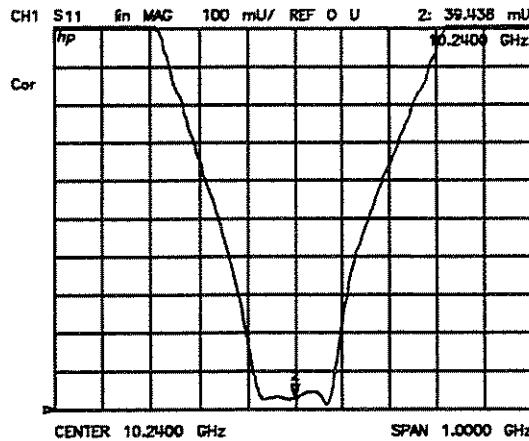

Figure 5–15. Linear Magnitude Format
**REAL** (REAL) displays only the real part of the measured data on a Cartesian format (Figure 5–16). This is similar to the linear magnitude format, but can show both positive and negative values. It is primarily used for analyzing responses in the time domain, or for display of an auxiliary input voltage signal for service purposes.